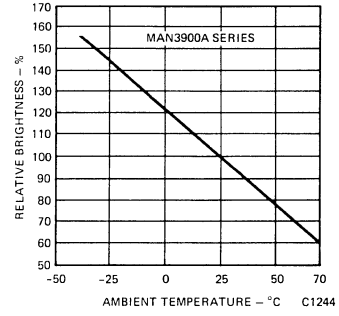

Fig. 3. Luminous Intensity vs. Temperature
2. The curve in Figure 3 is normalized to the brightness at 25° C to indicate the relative Luminous Intensity over the operating temperature range.